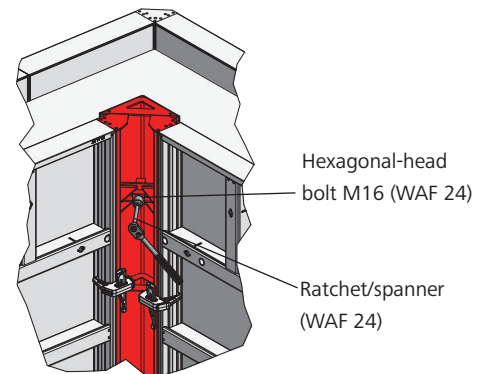

Fig. 30.4
A 24 mm ratchet/spanner (Fig. 30.3) and the AluFix SC tool (Fig. 30.4) are required to open the AluFix stripping corner.
1. Undo all hexagonal-head bolts with a 24 mm ratchet/spanner (Fig. 30.4).